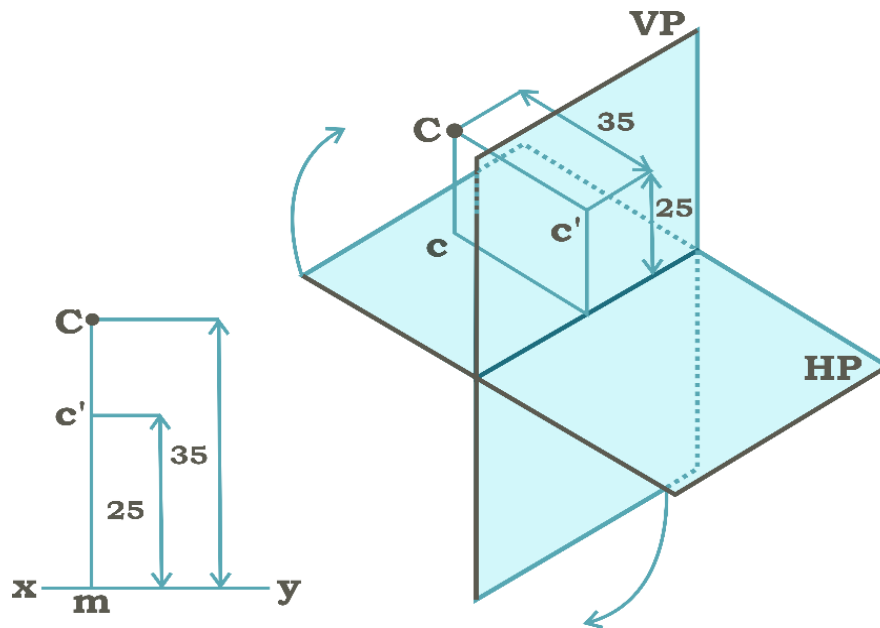

Fig. 2.17: Second quadrant
A point (C) above HP and behind VP (Second quadrant)- Fig. 2.17